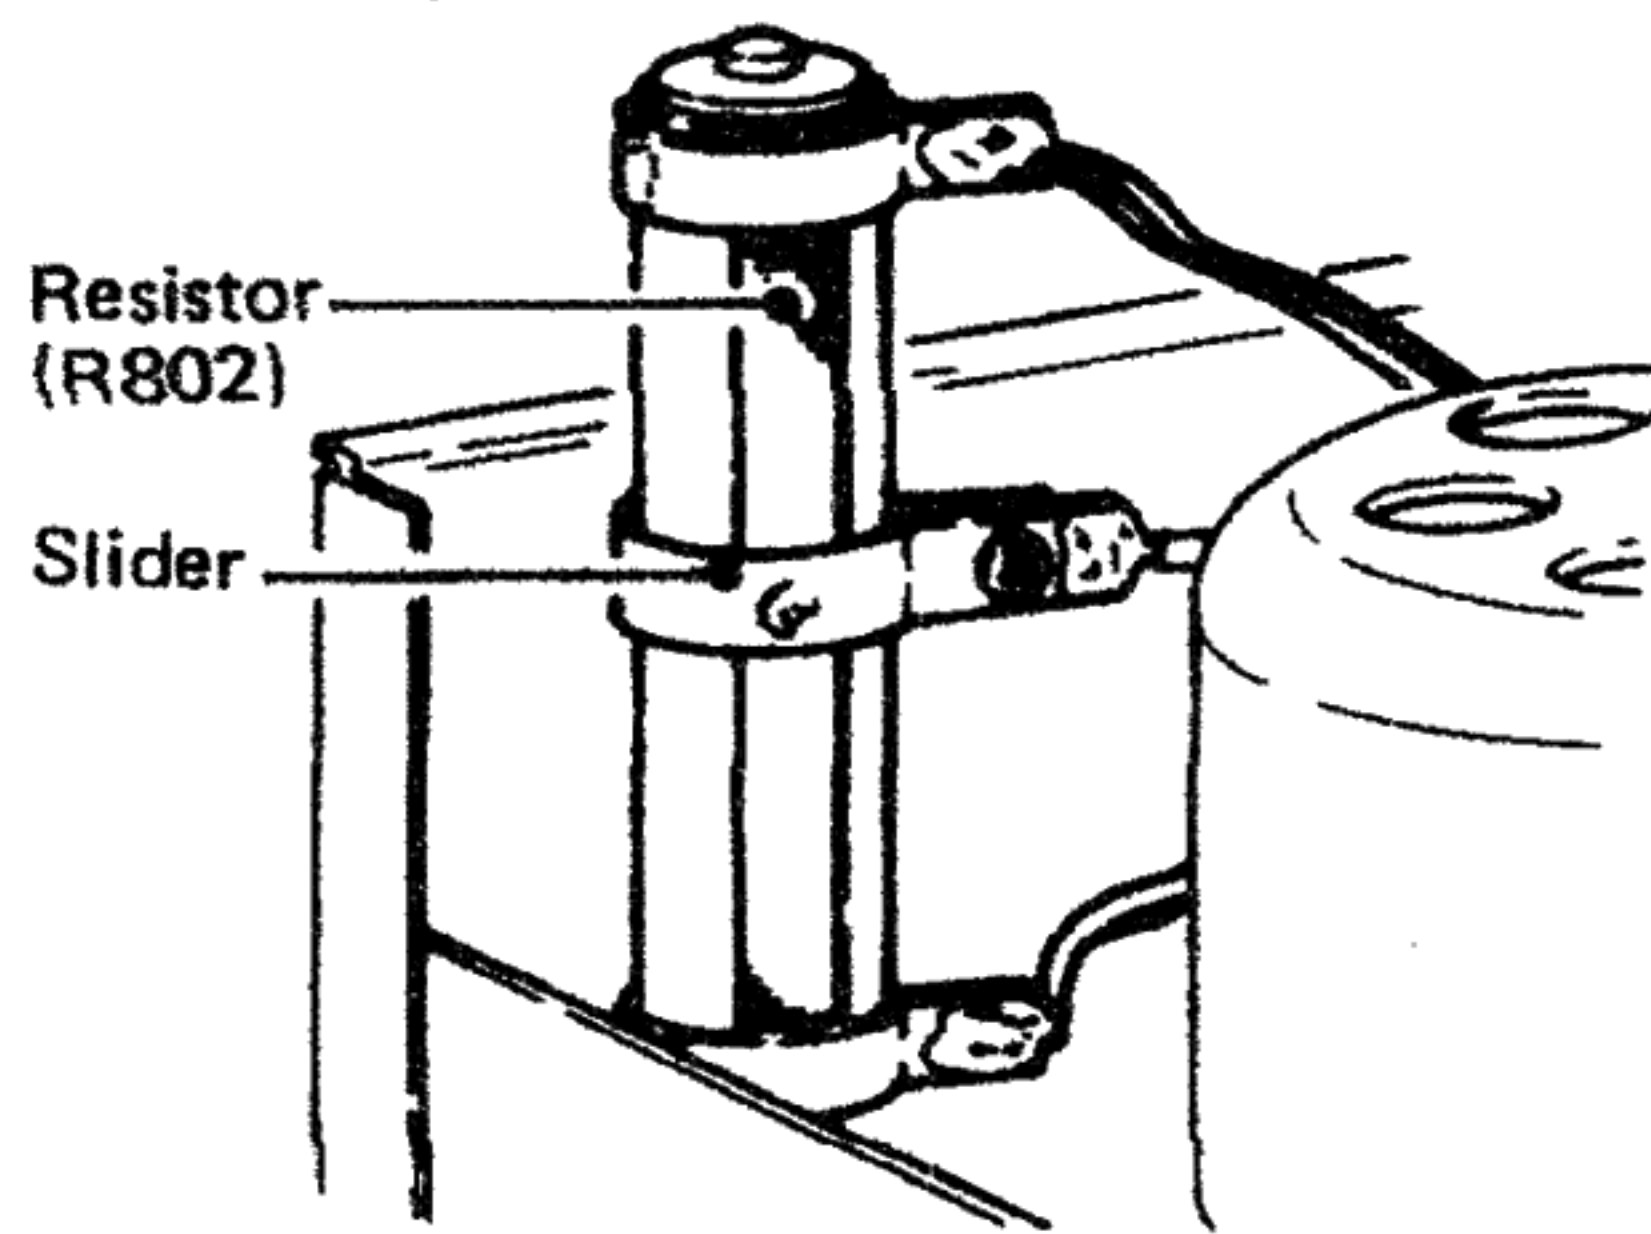

Fig. 4-6
7. If necessary, adjust the slider of the resistor (R802) until the proper torque value is obtained. See Fig. 4-6.